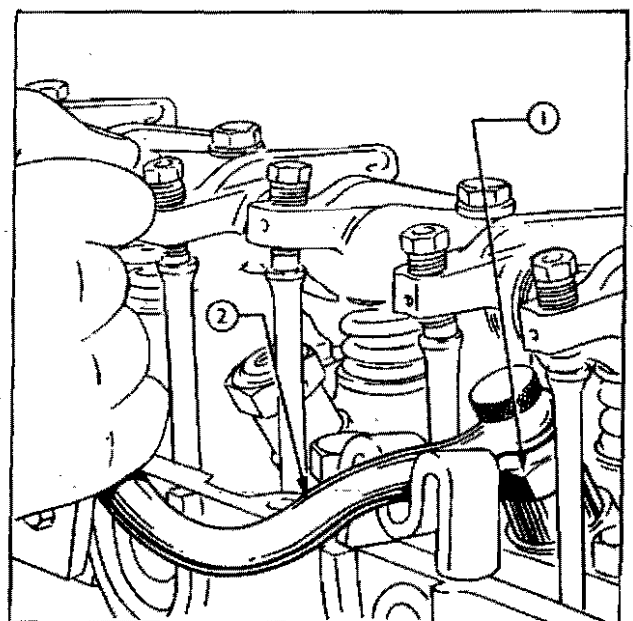

Fig. 38
6. Remove the injector after unscrewing the two securing bolts. If the injector is tight in its housing the injector lifting bar, Part No. EIADDN-17098, should be used (see Fig. 38).